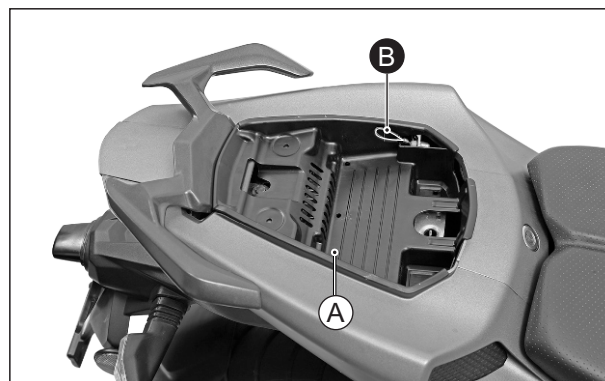

Fig. 2.2
- Take out the utility box by dislocating it from the seat release cable (B). (Fig. 2.2)